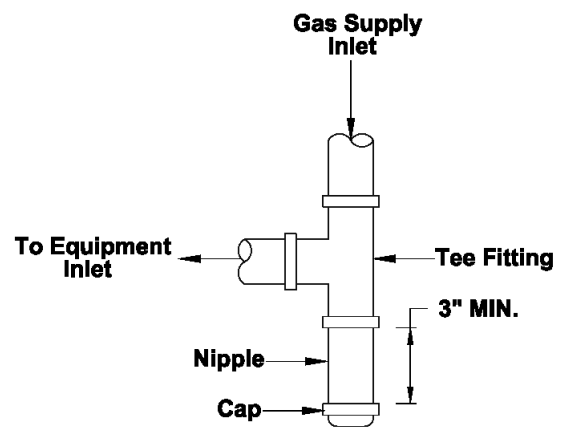

Figure 25 - Sediment Trap (Typical)
- 🔥 NFPA Code and Hearthstone require the use of a dedicated sediment trap just upstream of the unit. Damage to the valve, or other components due to the lack of a sediment trap are not covered by warranty (see figure 25).